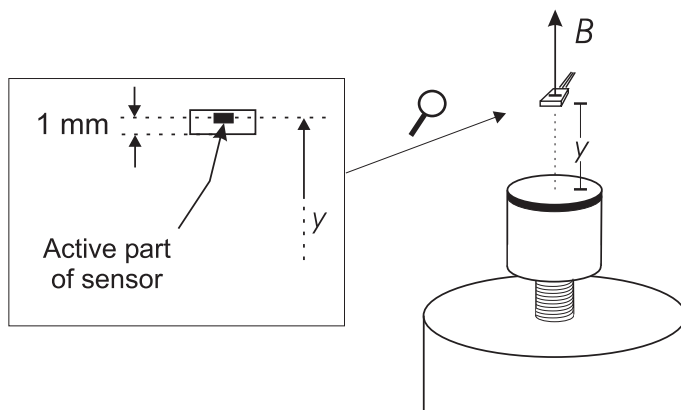

Figure 4: Definition of the distance y between top of magnet and the active part of the sensor.
b) Use the Hall sensor to measure the vertical magnetic field, B , from the permanent magnet along the cylinder axis, see Figure 4. Let the measurements cover the distance from $y = 26$ mm (use the spacer) to $y = 3.5$ mm, where $y = 1$ mm corresponds to the sensor and permanent magnet being in direct contact. Make a graph of your data for B versus y .